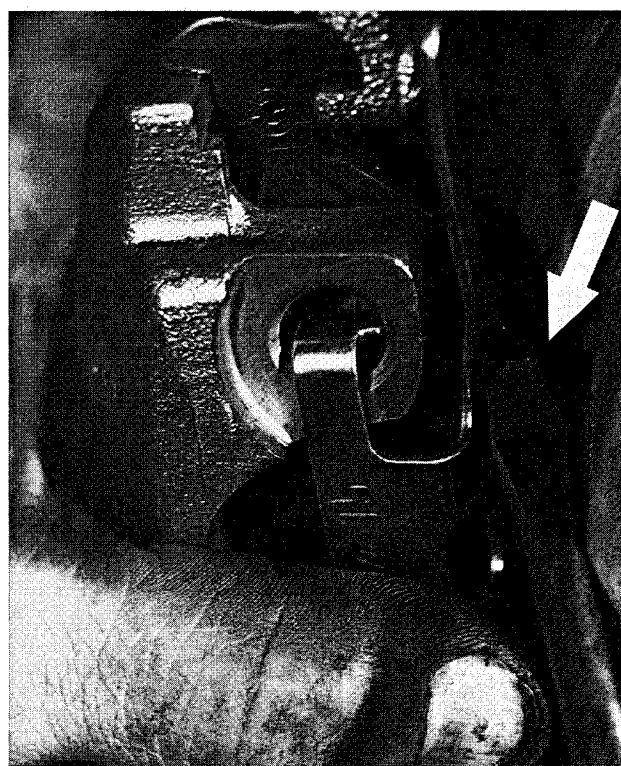

**Fig. 4.** Removing anti-rattle clip by unhooking at top and bottom. Use screwdriver as an aid (arrow).
4. Remove anti-rattle clip from caliper. See Fig. 4.